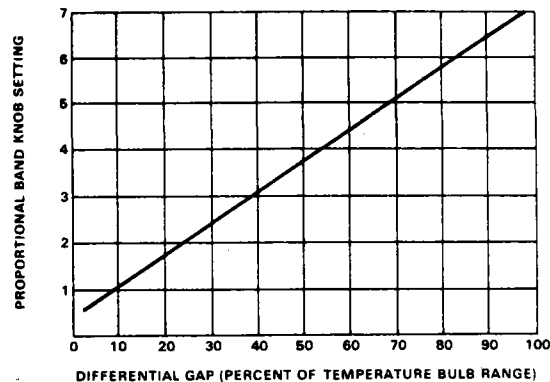

Figure 7. Differential Gap Adjustment for On-Off Controllers
1. After completing the "Initial Steps" portion of this section, refer to figure 7 to determine the proportional band dial setting required for the differential gap desired.
From figure 7, the proportional band dial setting should be approximately 4.5; rotate the proportional band knob to 4.5.
For on-off controllers, the proportional band adjustment determines the width of the differential gap (the difference between the process temperature at which controller output will switch from zero to full supply pressure and from full supply pressure to zero). The relationship between the proportional band dial setting and the differential gap is shown in figure 7.